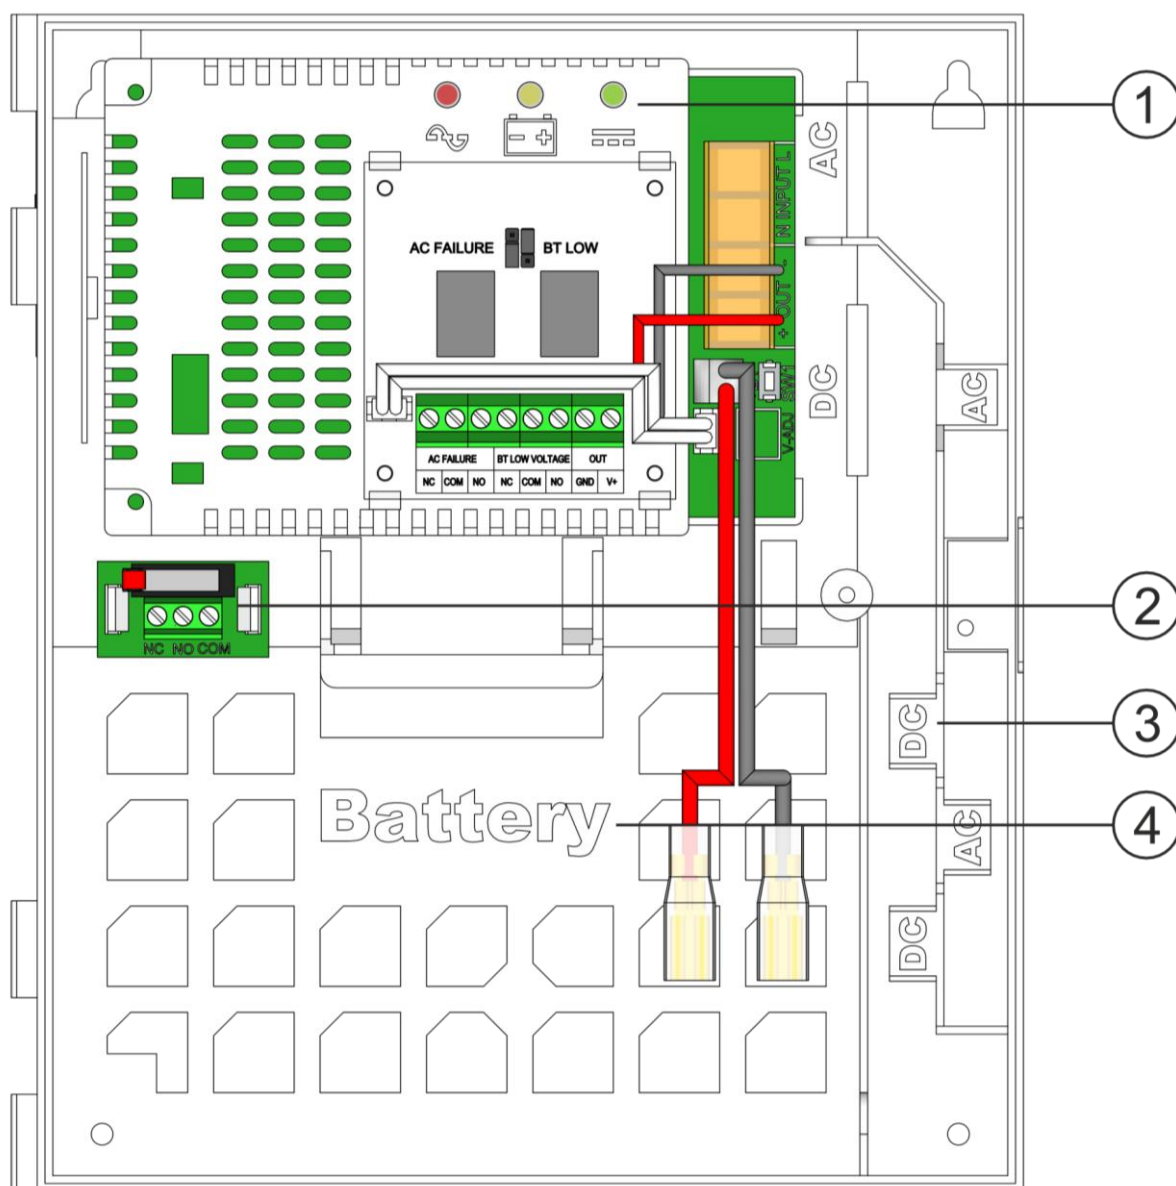

Fig. 3. View of PSU.
Table 2. View of PSU (see Fig. 3).
4. Mount the battery in the battery compartment of the enclosure (Fig. 3)